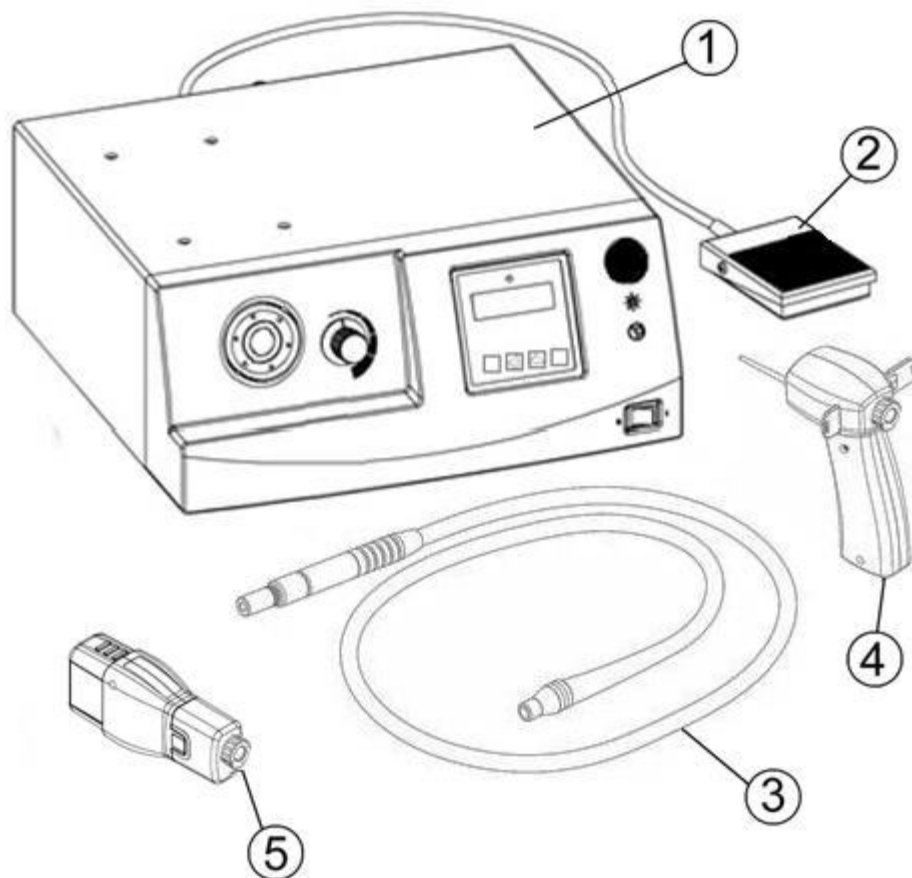

Figure 2.1. Lumera Phototherapy System
The **Lumera Phototherapy System** consists of the **UVB Light Source (1)**, **Foot Switch (2)**, **Light Guide (3)**, and the delivery attachments **Spot Handpiece (4)** and **Fiberoptic Brush (5)**. The Power Cord and UV-blocking Goggles are not shown in Figure 2.1. They are however included with the Lumera System package.